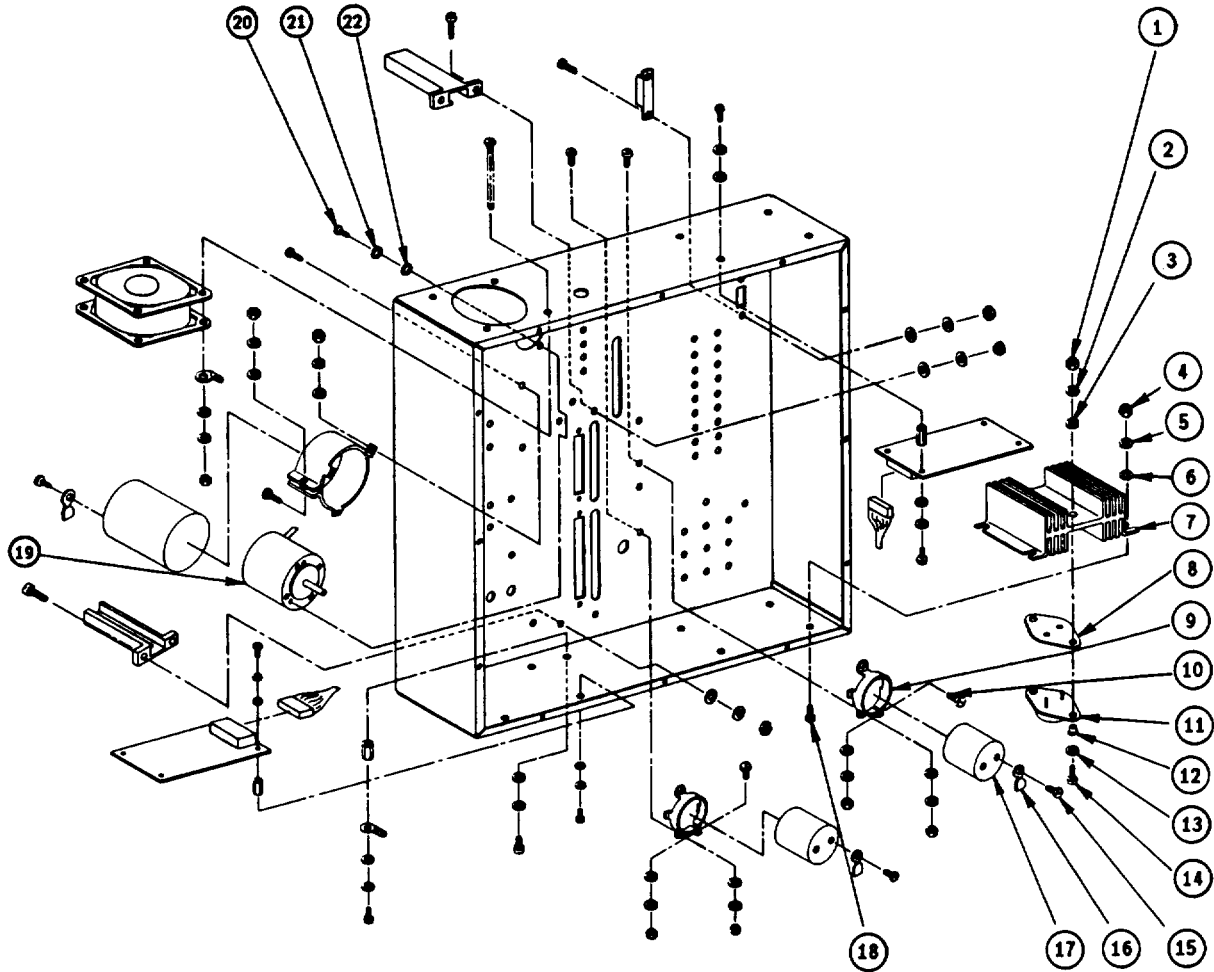

Figure 6-33(1). CMCC/DRIVE BOARD/PRINT HEAD TEST FIXTURE
Replacement of circuit boards, card guides, brackets, and other hardware is performed using figures 6-33(1), 6-33(2), and 6-33(3) as guidelines. No special instructions are required.